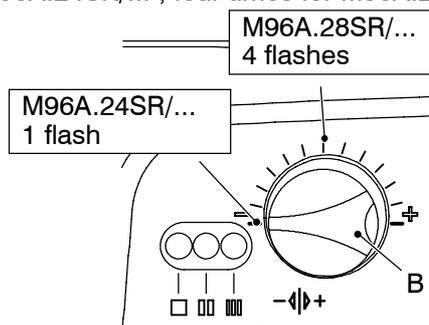

Fig. 8
At this step it is possible to visualize the current setting by keeping the reset button D pressed for more than 5 seconds. The lamps F will flash a number of times corresponding to the setting Fig. 8 (once for M96A.24SR/... , four times for M96A.28SR/...).
- 9 To change the setting turn the knob B on a position corresponding to the boiler models (Fig. 8).